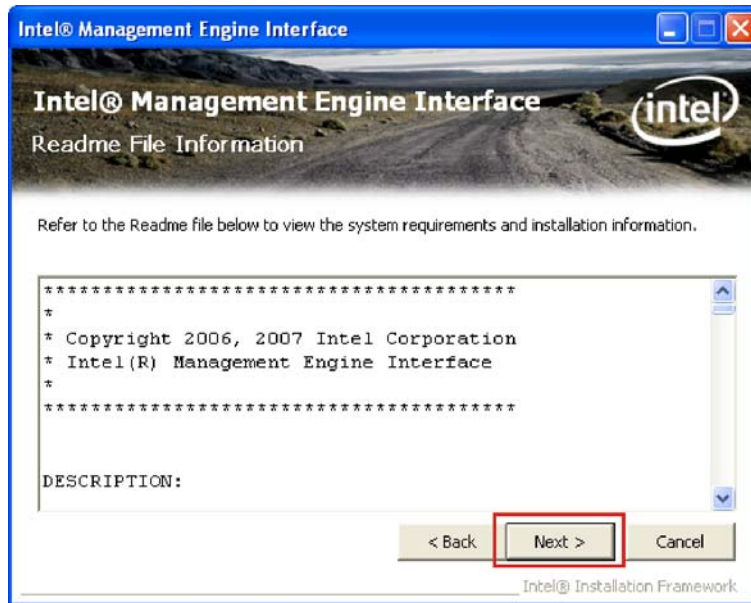

Figure 6-35: AMT HECI Driver Readme File
Step 8: The IAMT Readme file appears (Figure 6-35).